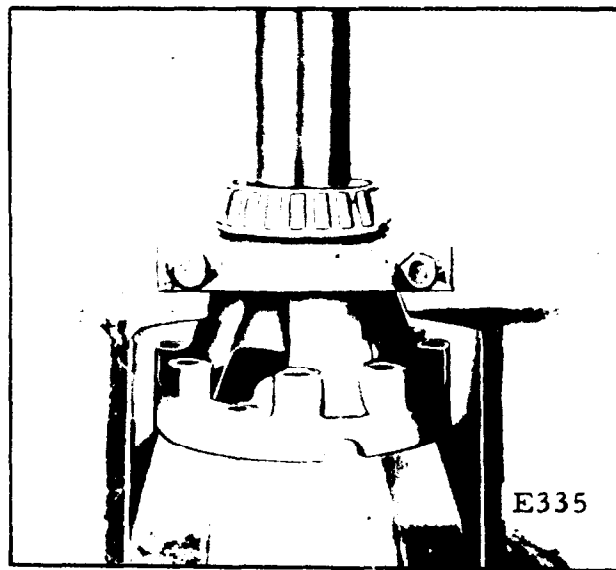

FIGURE 8-29.
e. If it is necessary to replace the differential bearings, place the case in a press (see figure 8-29) and press the bearing from the journal.